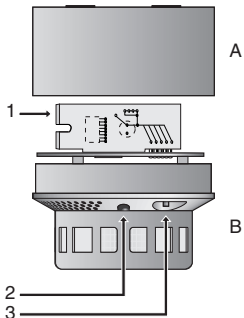

Fig. 1
- Turn the gas detector anticlockwise to remove it from its base (A) (Fig. 1, B).